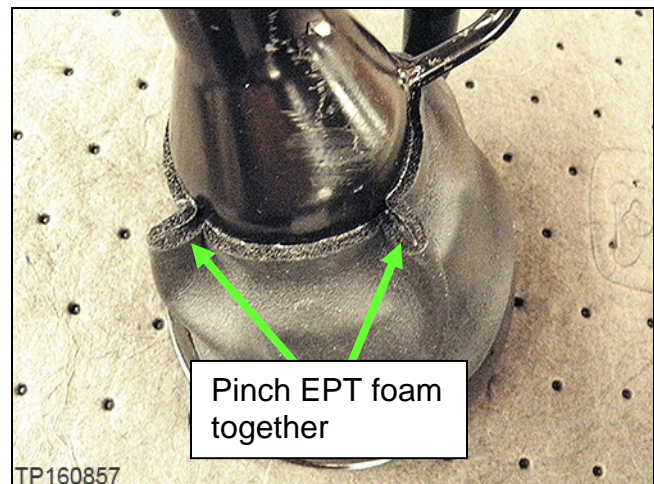

Figure 8
f. Close the excessive EPT foam by pinching the excess together as shown in Figure 8 and then press the remaining EPT adhesive to the fuel filler pipe.